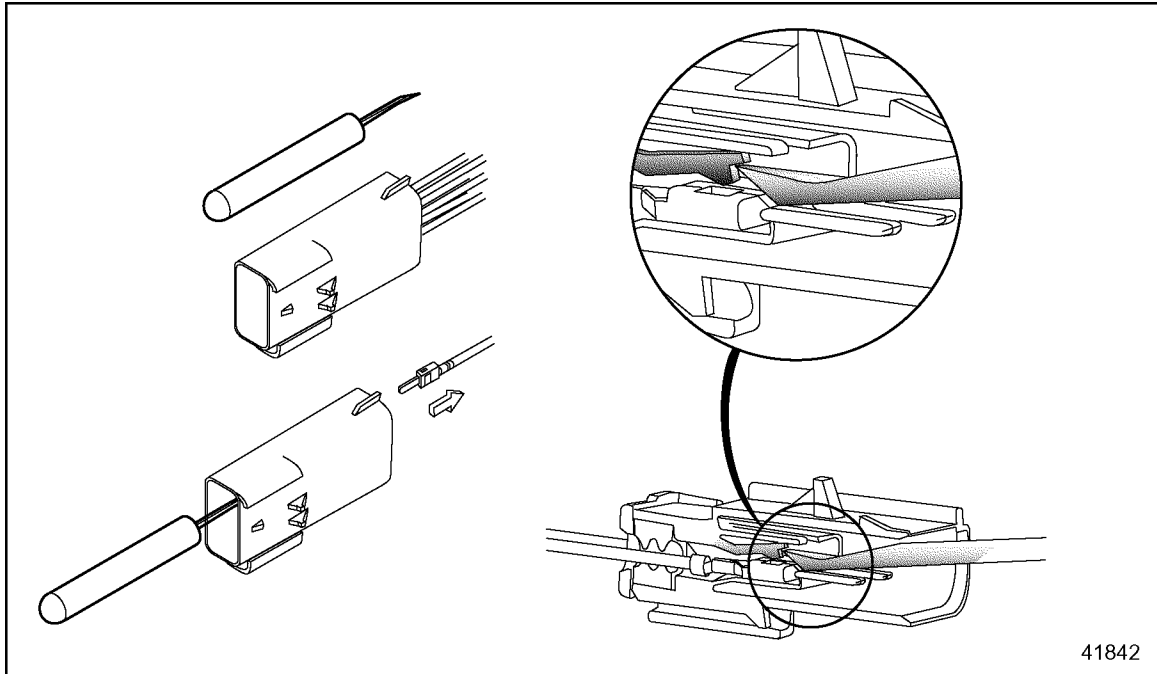

Figure 3-27 Pressing the Locking Tang
- Using a FCI APEX repair tool (P/N: 54900002) or a #2 jeweler's screwdriver, press back the terminal locking tang (see Figure 3-27).